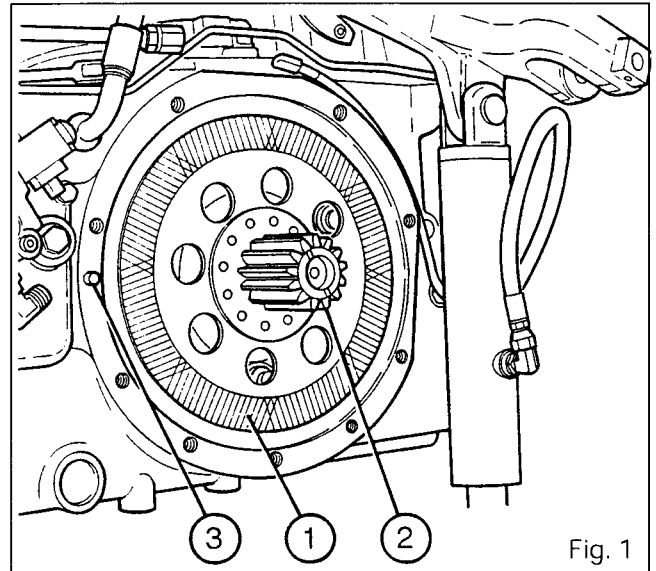

Fig. 1
3. Remove the disc **(1)**, the planetary shaft **(2)**, the dowel **(3)** (Fig. 1).
16. Clean mating faces on the housing and on the trumpet housing with a non-greasy solvent and carry out operation 19, chapter 6 C01A. Refit the planetary shaft (2), the disc (1) and the dowel (3) (Fig. 1).